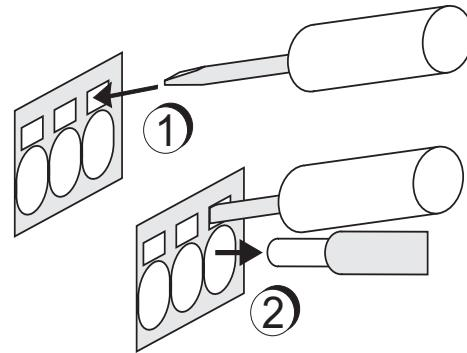

Figure 5-6
4. Unlock the AC wires, one-by-one, using a small flat blade screw driver; see Figure 5-6